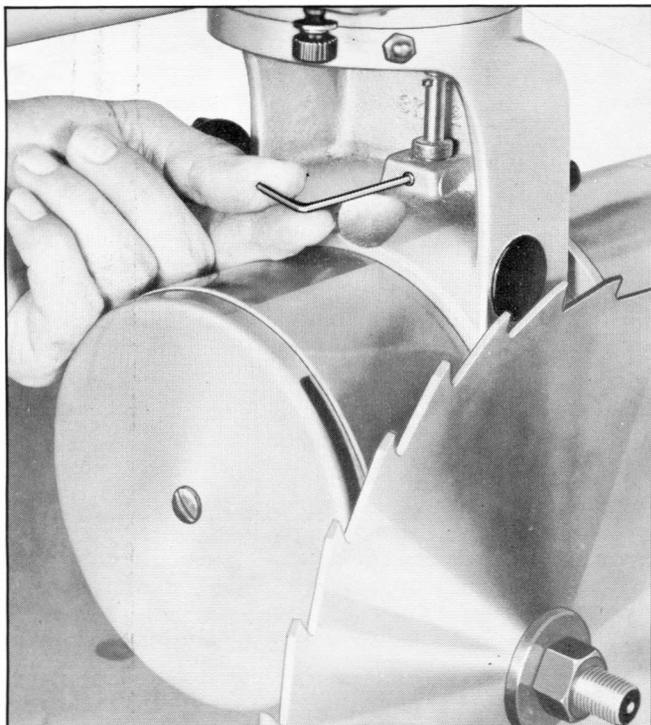

Fig. 21
2. Loosen hex socket screw in fig. 21, with hex wrench supplied.
5. Retighten set screw in fig. 21, and recheck squareness with combination square.